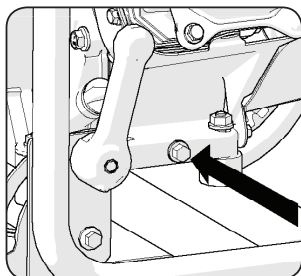

Fig 19
- Remove the oil drain plug so that the oil can drain completely from the engine. (**Fig. 19**)